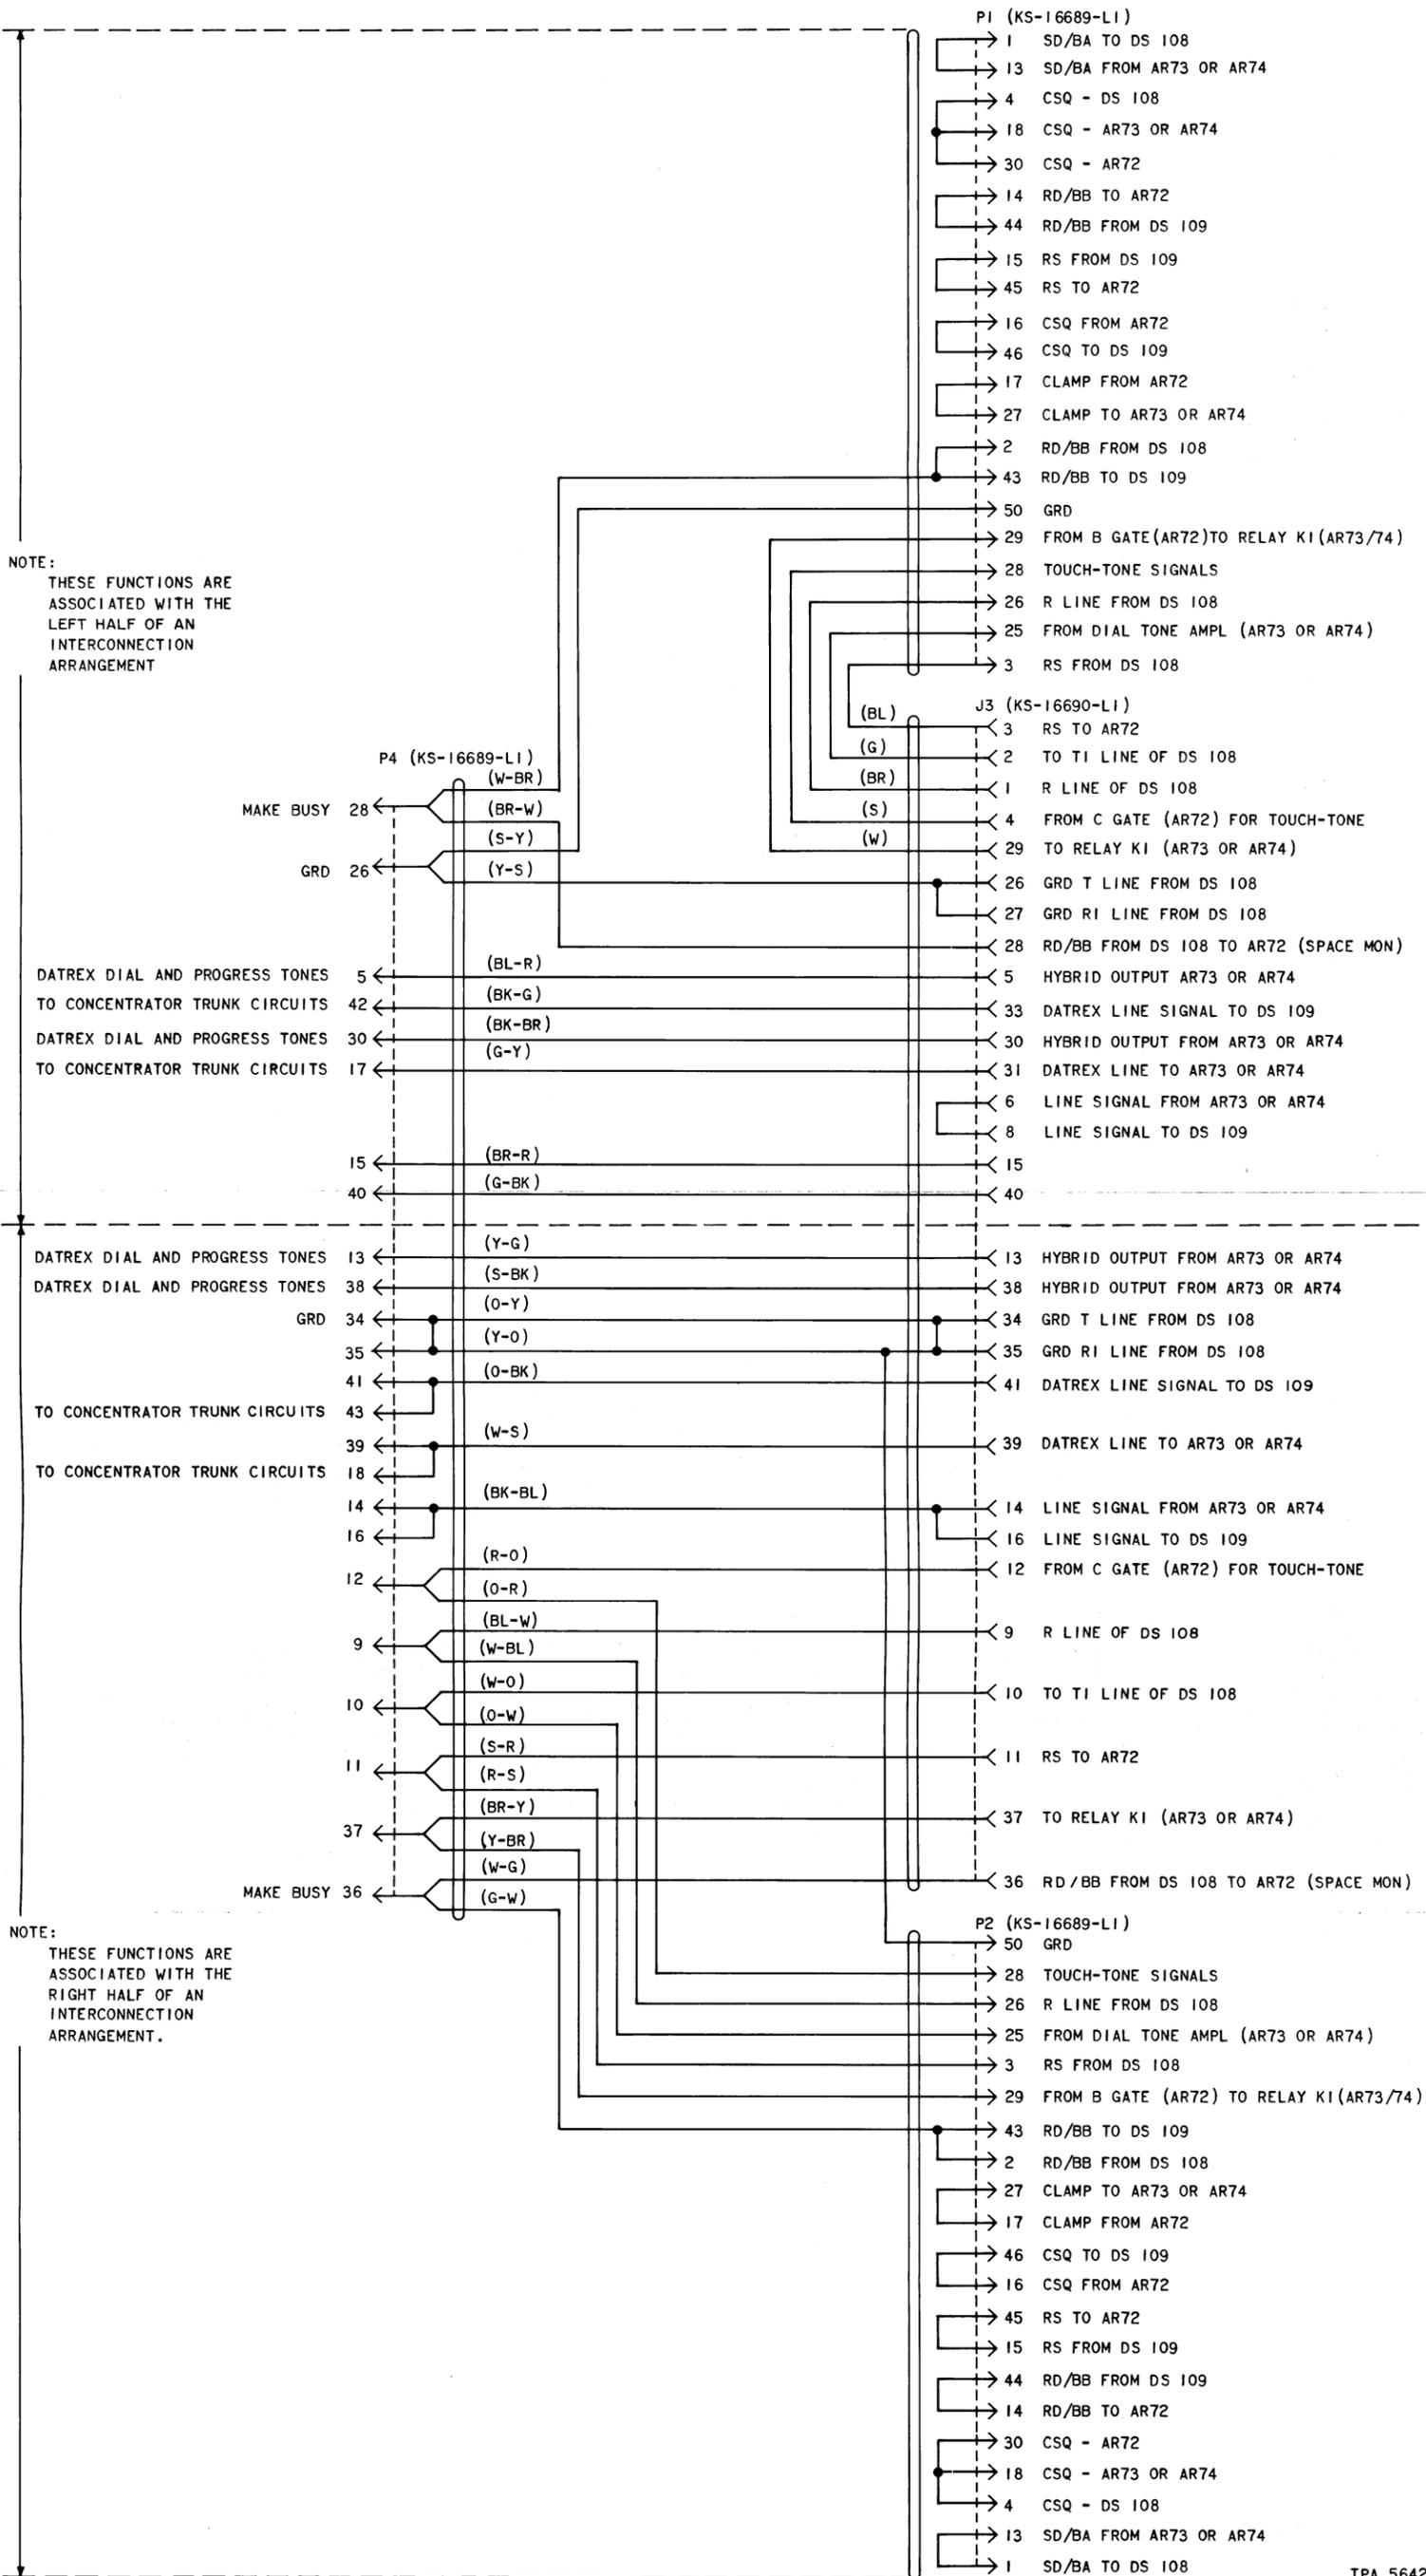

Fig. 10—209A Adapter Cord, Interconnection Sketch
- (1) Plug the 50-pin connector end of the line cable into P4 of the 209A adapter cord. A functional sketch of interconnections through the 209A adapter cord is shown in Fig. 10.